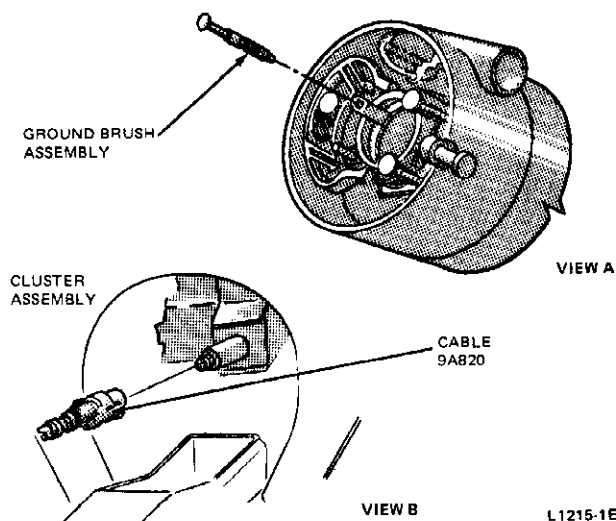

FIG. 14 Ground Brush Installation
2. Install the steering wheel trim pads and the steering wheel (Fig. 14).
See Fig. 14 for Diagnostic Chart.